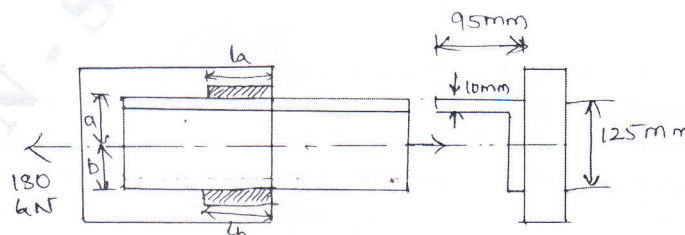

Fig.Q8(b)
- b. A $125 \times 95 \times 10\text{mm}$ angle shown in Fig.Q8(b) is jointed to a flange by the two parallel welds along the edges of 125mm length. The angle is subjected to a load of 180kN. Find the length of the weld if the permissible load per mm weld length is 430N. (11 Marks)